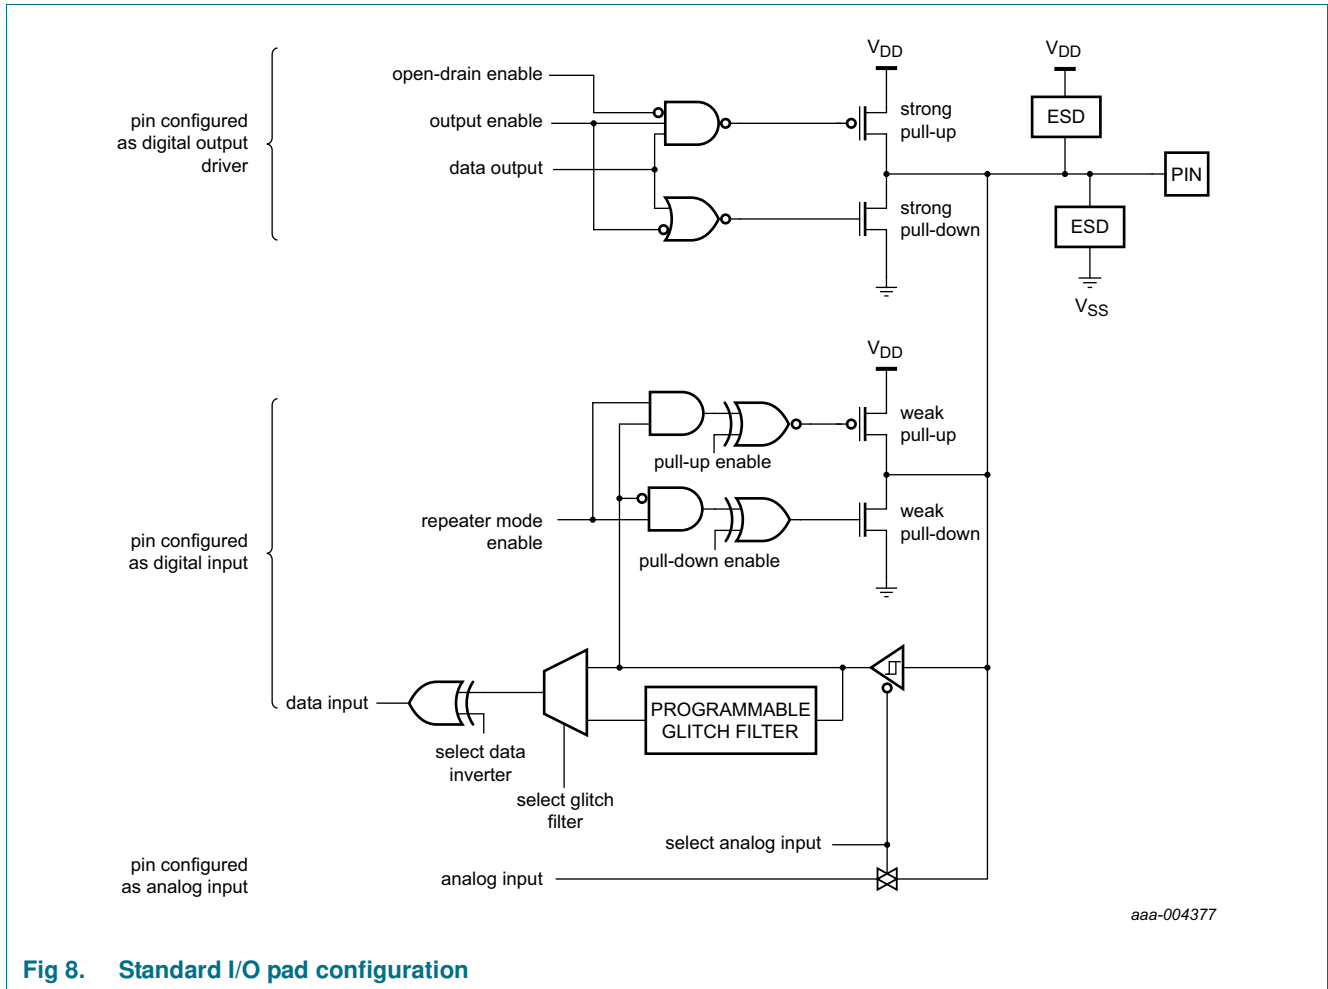

Fig 8. Standard I/O pad configuration
Figure 8 shows the possible pin modes for standard I/O pins with analog input function:
- Pull-up/pull-down configuration, repeater, and open-drain modes can be programmed through the IOCON block for each GPIO pin (see Figure 8).